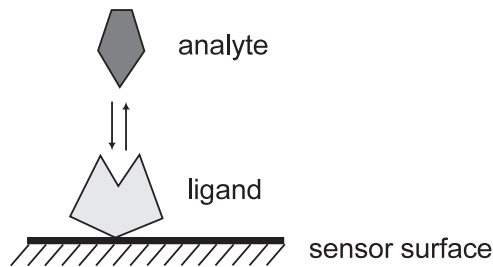

Figure 2.1: “Ligand” refers to the immobilized interactant and “analyte” refers to the other interactant present in the sample injected over the sensor surface.
- When molecular interactions are studied in Biacore, one of the interactants is immobilized on the sensor surface while the other is passed over that surface in solution. In Biacore terminology, **ligand** refers to the immobilized component and the interactant present in the sample injected over the surface is referred to as the **analyte** (Figure 2.1).